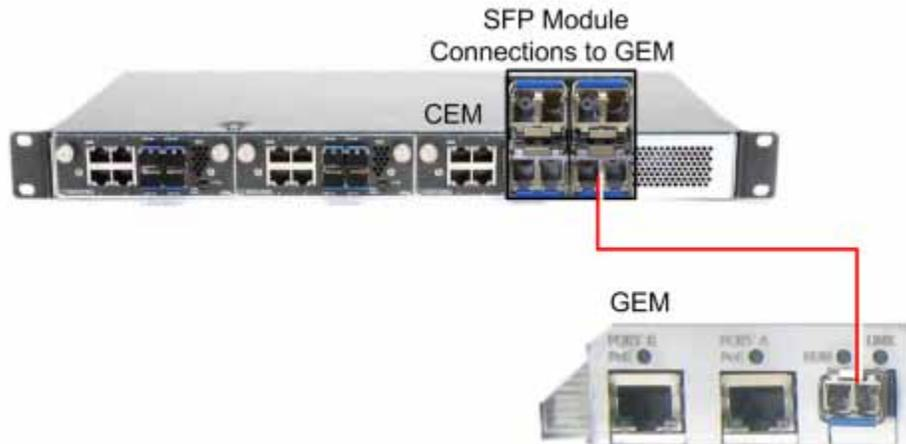

Figure 6-3. CEM to GEM Fiber Connections
2. Connect the corresponding SFP module connectors (i.e. Tx/Rx port 1 corresponds to fiber port 1) to the GEM LC/APC fiber connector. See Figure 6-3.